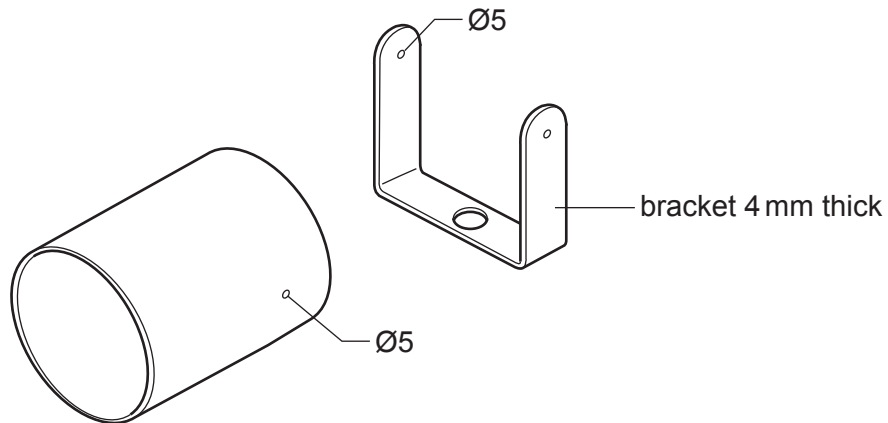

Fig. 13.5
- (e) Fig. 13.5 shows details of the lampshade and the bracket. The lampshade will be joined to the bracket by means of fittings that will go through the $\text{\O}5$ holes drilled in the lampshade and bracket.